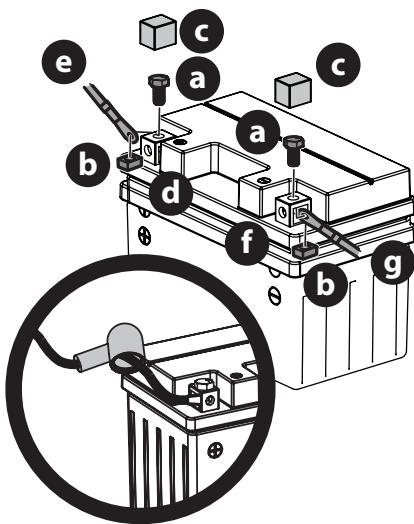

Figure 14
- Remove the factory installed hex screws (a) and square nuts (b) located either on the end of the wiring harness or in the bag with this manual. Retain the hardware for later instructions (Figure 14 on page 12).
2. Remove the plastic cover (c), if present, from the positive battery terminal (d) and attach the red cable (e) to the positive battery terminal (d) with one of the hex screws (a) and square nuts (b), from Step 1. Use a Philips screw driver (Figure 14).
3. Position the red rubber boot over the positive battery terminal to help protect it from corrosion (Figure 14 inset).
4. Remove the plastic cover (c), if present, from the negative battery terminal (f) and attach the black cable (g) to the negative battery terminal (f) with the remaining hex screw (a) and square nut (b) (Figure 14).